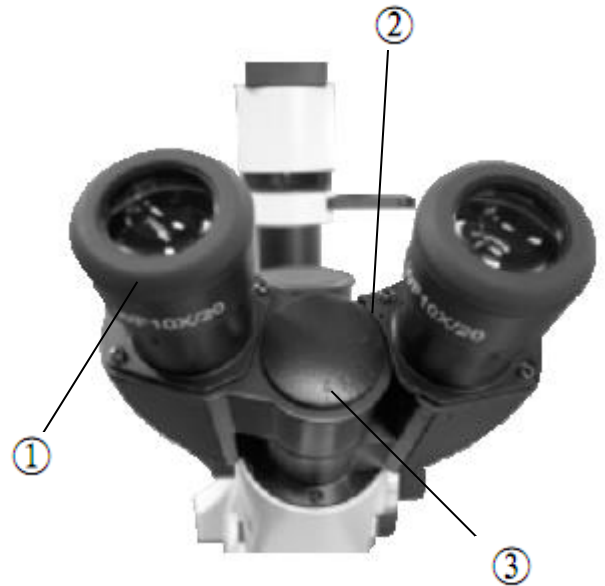

Fig .28
4-3-1 Adjusting the diopter (Fig.28)
★ The reticle on the interpupillary distance indicator ③, pointed by the spot “.” ② on the eyepiece holder, shows the scale of the interpupillary distance. (Fig.28)